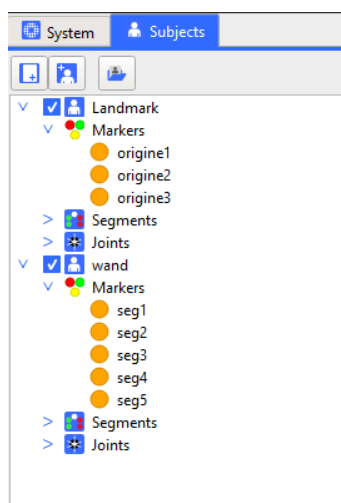
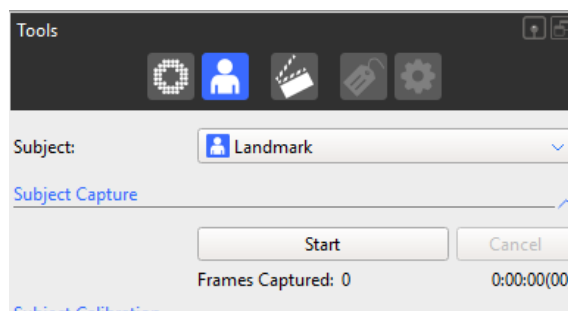

Fig. 3.7: Tree in Nexus
Fig. 3.8: Subject Capture in Nexus
- Then create a tree as you can see in Fig. 3.7.
In order to organize all data coming from the Vicon system, we will give a name to all markers. We can create a new subject with the button on the upper left corner as in Fig. 3.7. To capture the subject make sure all markers of the rigid body are visible by Nexus. Capture the body a few seconds, see Fig. 3.8.